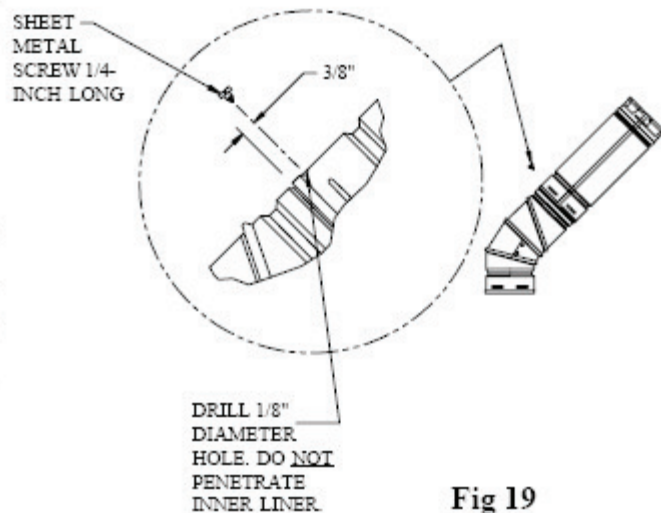

Fig 19
2. **Connections.** In addition to twist locking the elbows, the connection may be further secured by using sheet metal screws at the joint where the male and female parts overlap, provided that the screws **do not** penetrate the inner liner as shown in Figure 19. One screw per joint is normally sufficient. Use #8 Pan